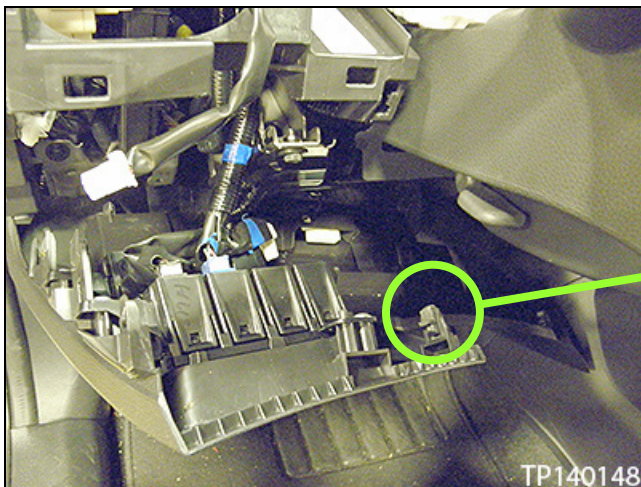
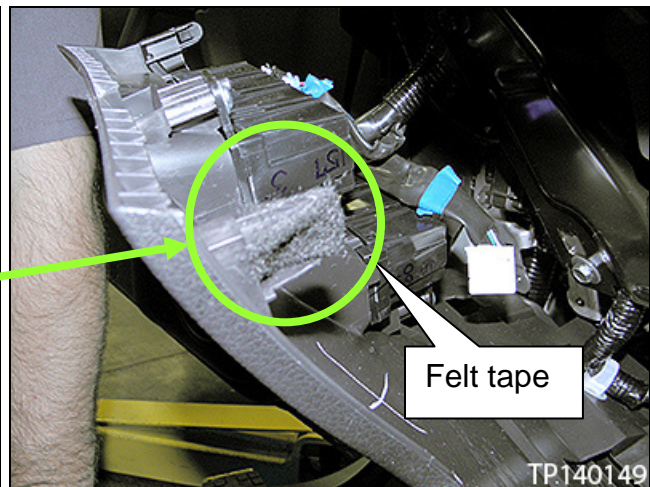

Figure 23
Figure 24
19. Install the Combination Meter by snapping the two (2) molded plastic clips to the Instrument Panel and then securing with two (2) screws.
- Align and clip seven (7) molded plastic clips and one (1) metal clip to the Instrument Panel.
25. Apply felt tape (Part number J-50397-5 from Squeak and Rattle kit) to Instrument Lower Panel LH molded plastic clip as shown in Figure 23 and Figure 24.